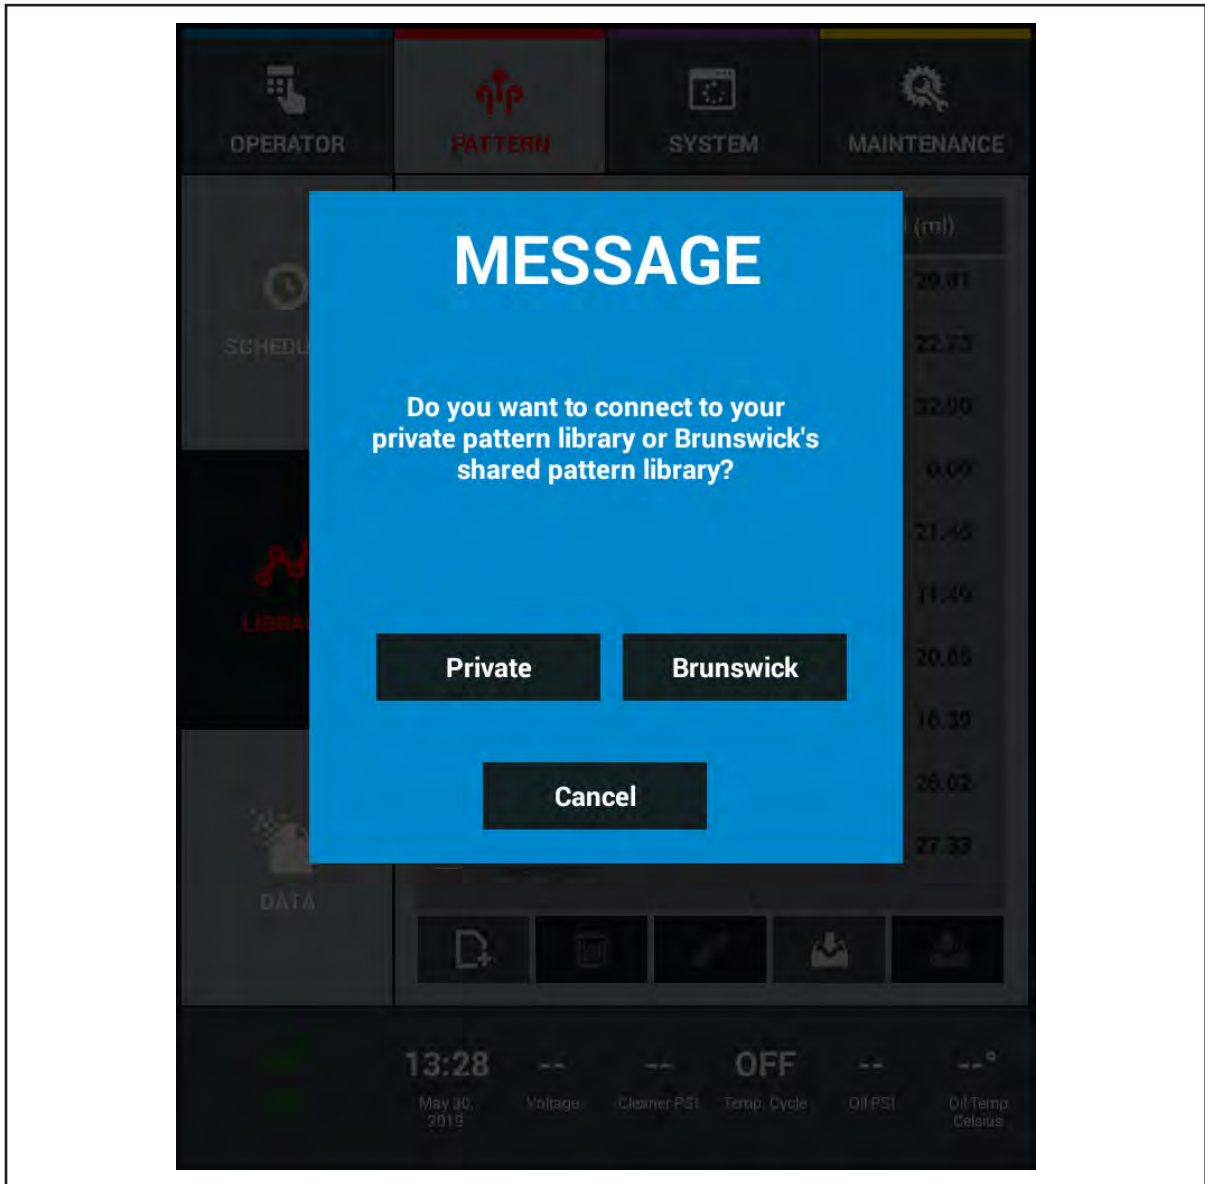

Figure 8-6. Pattern Library Brunswick Cloud Message
2. Select the Import button to access the Brunswick Cloud. This will generate a message asking you to choose between Private or Brunswick. Refer to *Figure 8-6*.